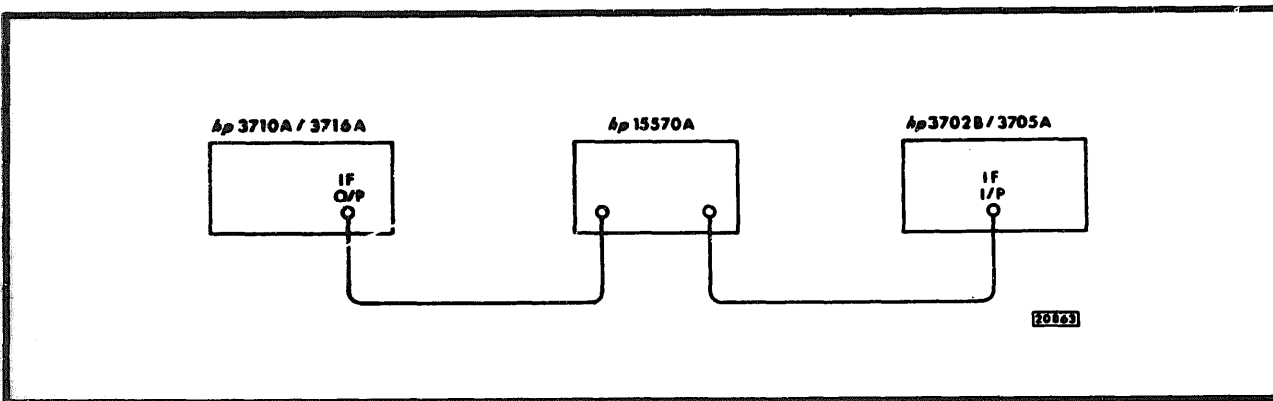

Figure 3-5. AM to PM Conversion Set-up
- 1. connect the equipment as in Figure 3-5.